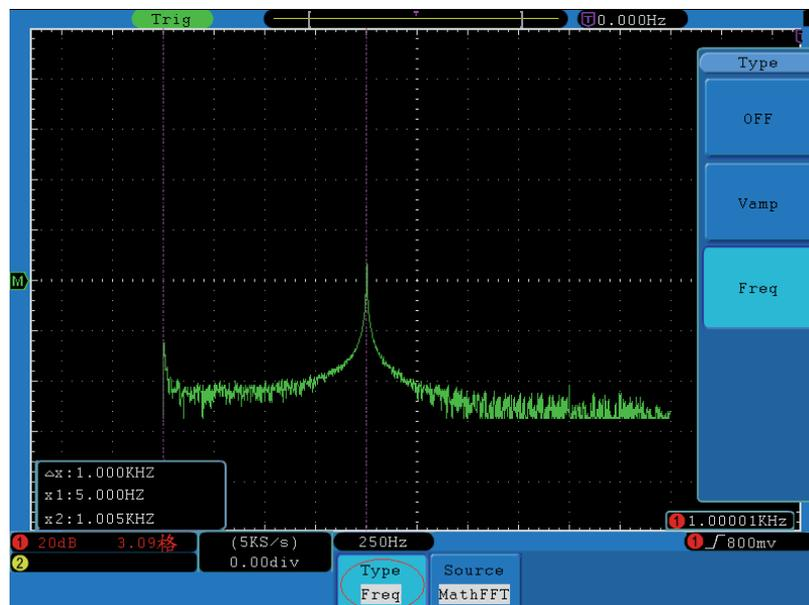

Figure 70. Wave of Freq cursor measurement.
- 3 According to the measured waveform, adjust the positions of Cursor1 and Cursor2 by turning the **VERTICAL POSITION** knob of CH1 and CH2. Increment window shows two cursors difference value and the present position. (See Figure 70.).